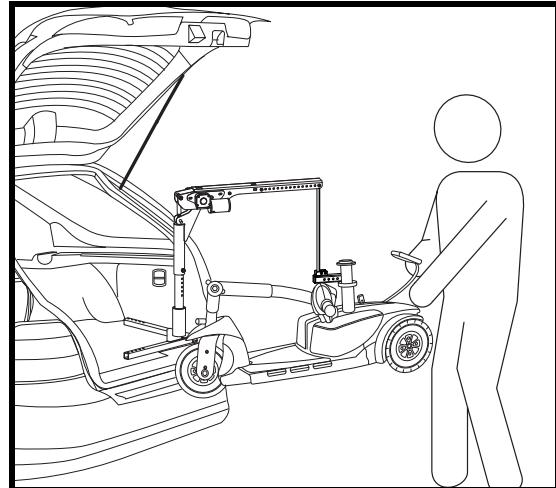

Figure 9. Lifting the Mobility Product
9. Once the mobility product is raised high enough to fit into the vehicle, stop the lift. See figure 9.